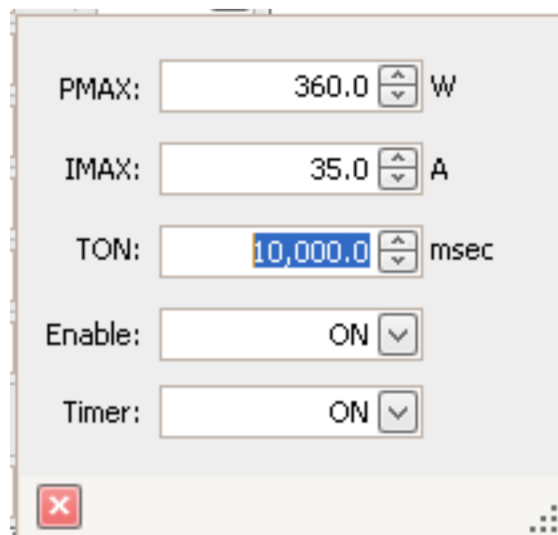

Figure 34. CPCC Default Values Adjusted Through GUI
As shown in Figure 34, the three program threads are (1) the fast-interrupt request (FIQ); (2) the timer-interrupt request (IRQ); and (3) the background loop. These threads are described as:
The EVM is delivered already programmed with a constant-power threshold of a few watts over 360 W and a constant-current threshold of 33 A (typical). These limits are adjustable through the GUI and a new setting can be saved to data flash. The maximum hardware capability limits the current within 35 A. The dashed lines represent exceeding the constant power to a higher current, although the maximum current of this EVM is limited to 35 A. Figure 34 shows the GUI default values of these controls.
In addition to setting the previously described thresholds, enabling or disabling the CPCC feature and configuring a fault timer is also possible. Whenever the State Machine detects CPCC operation a timer starts. If the timer reaches the time limit specified in Figure 34, the system latches off until the on command toggles off and on again, or recycles the input power.